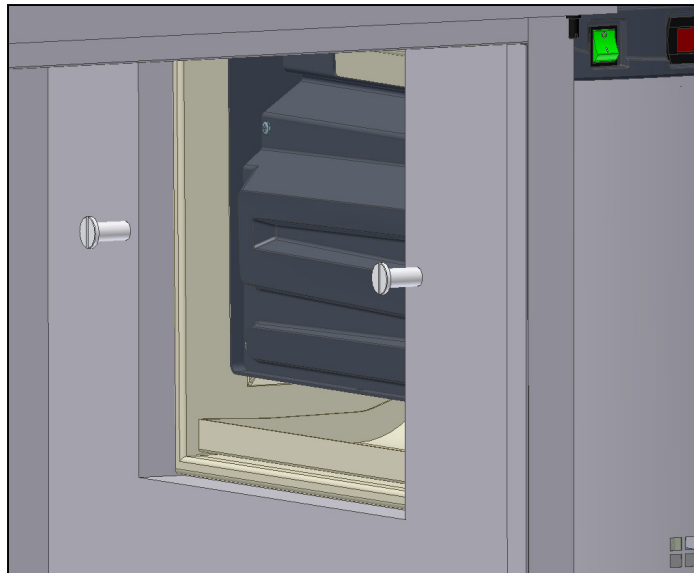

Fig. 14
- Fasten the V6 with 2 sleeves by the inside of the right-side panel (Fig. 14);